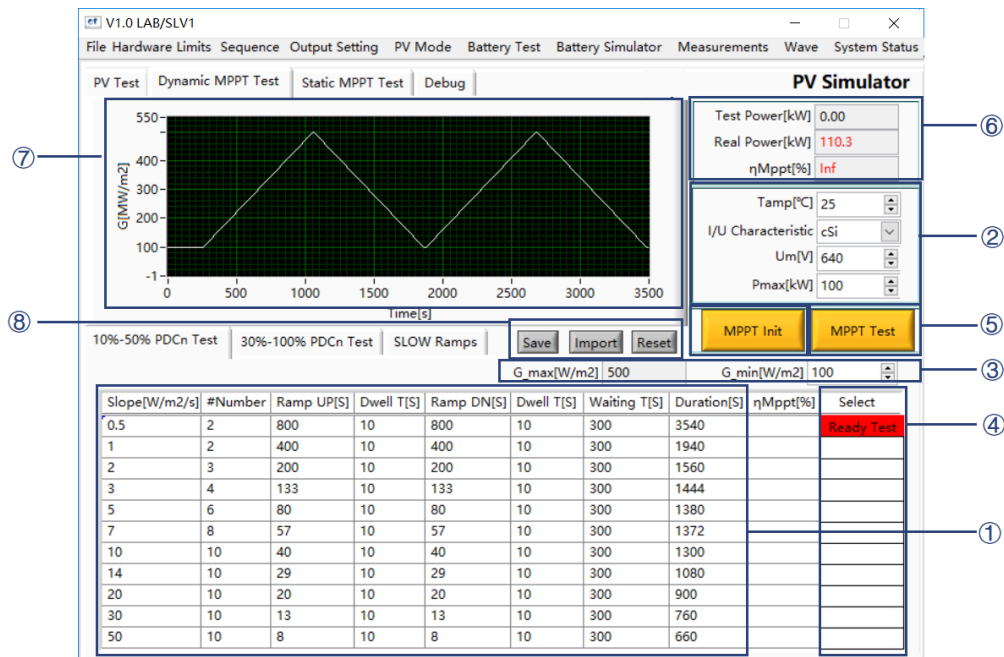

Figure 5-15 Dynamic MPPT test
Set the temperature (Tamp), I / U characteristics (crystalline silicon / thin film mode), Um, Pmax, initial irradiance and other parameters (Figure 5-15②③), click to switch the state of the test line to the ready state (Figure 5-15④), Click "Initialize button" (MPPT Init) → "MPPT Test button" (MPPT
Test) (Figure 5-15⑤), the software will automatically calculate and display the real-time parameters during the test (Figure5-15⑥), and generate a simulation curve in the waveform display area (Figure 5-15⑦). After starting the MPPT test, the remaining test time will be displayed according to the test progress, and the corresponding status will be displayed; after each line is executed, the dynamic maximum power point tracking efficiency η_{Mppt} will be calculated. After the test is completed or the test is stopped, the MPPT test parameters in the table return to the initial state.